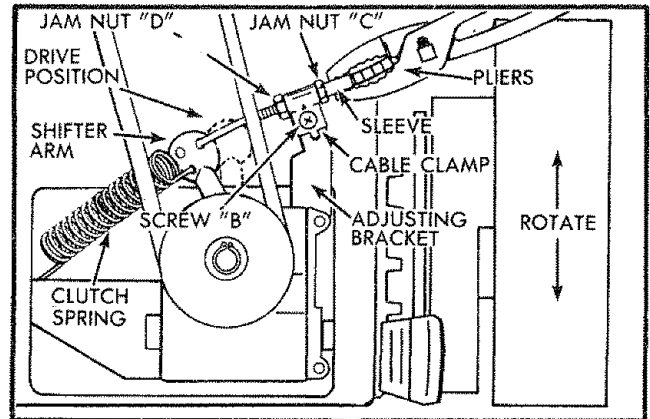

FIG. 17
3. Loosen both jam nuts "C" & "D" at the cable clamp on the gear case adjusting bracket (See Fig. 17).
4. Unhook clutch spring from shifter arm (See Fig. 17).
7. Hold shifter arm in fully engaged position by pliers as shown in Fig. 17. **DO NOT** pull on control cable.
9. Tighten cable clamp screw "B" (See Figs. 17).
10. Tighten jam nut "D" up to bracket (See Fig. 17).